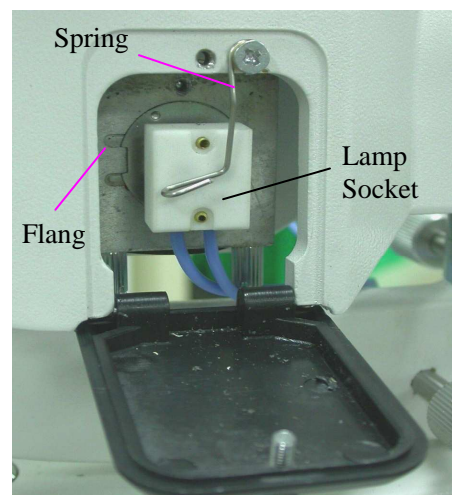

Fig.25
- ✧ Turn the main power switch (8) off.
- ✧ turn knob of Lamp Cap (30) counter clockwise and open it (Fig.24, Fig.25).
lamp fixation disc should be aimed at the flange of lamp base; otherwise the illumination may be uneven. Insert lamp socket into lamp feet. Turn the spring to original position (Fig.25).